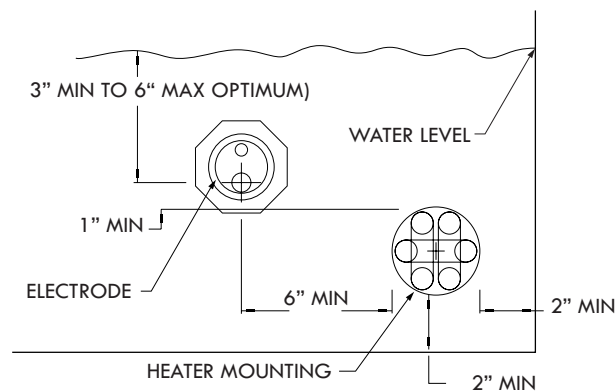

Figure A-54: Recommended basin heater mounting
- Two inch hubs are used to insert the heater and combination level sensor/thermostat well in the PVC couplings located at the Basin (identified by REYMSA). Immersion Heater should be located 2 inch (minimum) above the basin bottom. The access port for the combination level sensor/thermostat well should be one inch (minimum) above the heater but below the water level. See Figure A-54 for recommended distances and mounting.